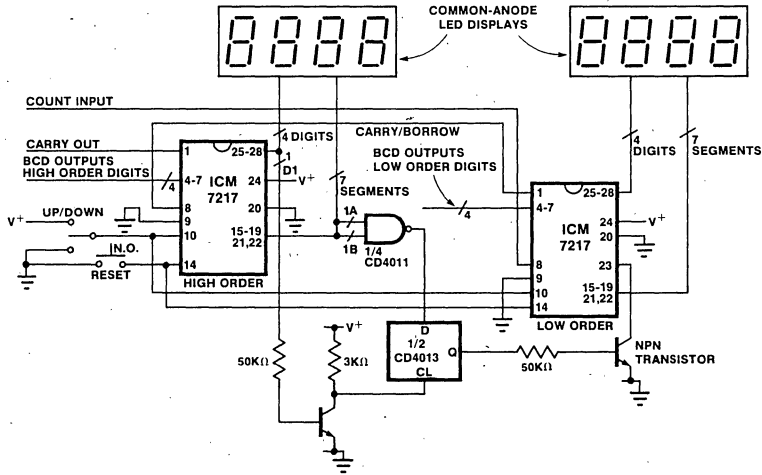

Figure 9: 8 Digit Up/Down Counter
To force the device to display leading zeroes after a fixed decimal point, use a bipolar transistor and base resistor in a configuration like that shown below with the resistor connected to the digit output driving the D.P. for left hand D.P. displays, and to the next least significant digit output for right hand D.P. display. See Figure 9 for a similarly operating multi-digit connection.
4. 8-DIGIT UP/DOWN COUNTER (Figure 9)